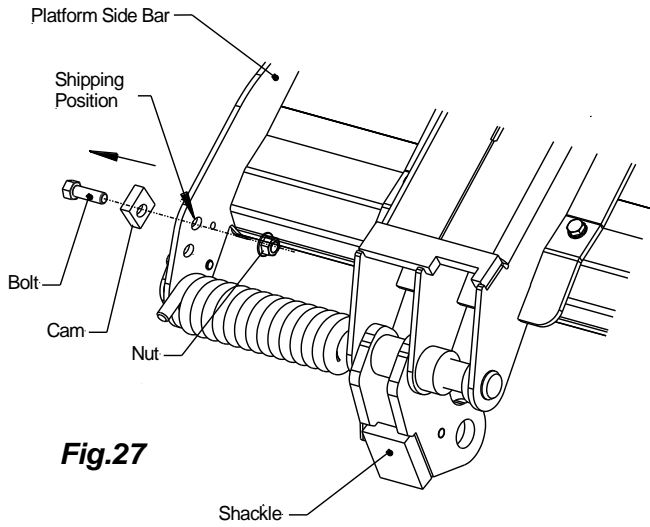

Fig.27
1. **Torsion Cam Installation:** Position the gate as shown below with the platform resting on the parting wheel and raised about 4" from the ground, **Fig.25**. The adjustment cam is installed in shipping position with no tension when shipped from the factory, **Fig.26**. To add tension to the torsion spring, remove the adjustment cam from its shipping position and move to the engaged hole **Fig.27**. Rotate cam to adjust the tension of the spring. The short leg of the spring should be in contact with the cam, **Fig.28**. Secure the cam with the bolt and nut. Torque the bolts to 100 ft-lbs., **Fig.29**. Repeat the process for the right side cam. Make sure left side and right side cams are installed in the same tension setting.